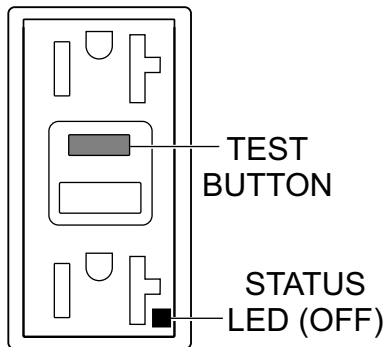

Figure 75. GFCI Receptacle (OFF)
- Press the **TEST** button (Figure 75) on the GFCI receptacle and verify that the status LED turns **OFF**.